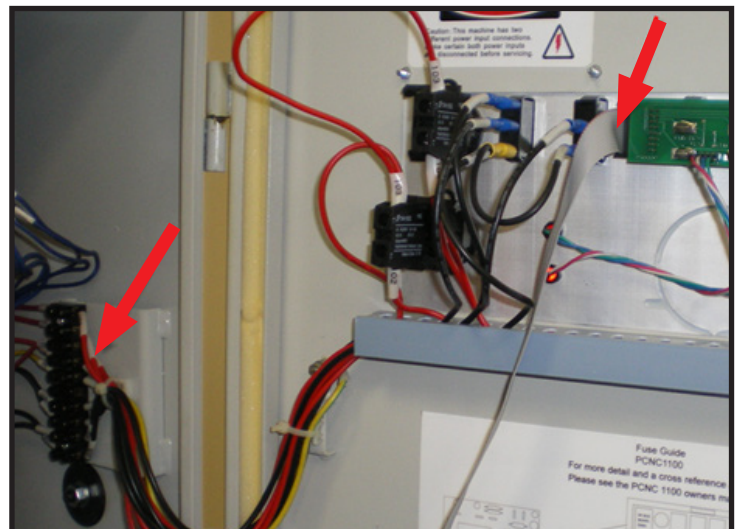

Figure 1
2. Open up the wire tray cover and disconnect all wires from the two locations in the back of the Operator Panel, as seen in **Figure 1**. The PCNC 1100 Series 3 is shown, other machines are similar.